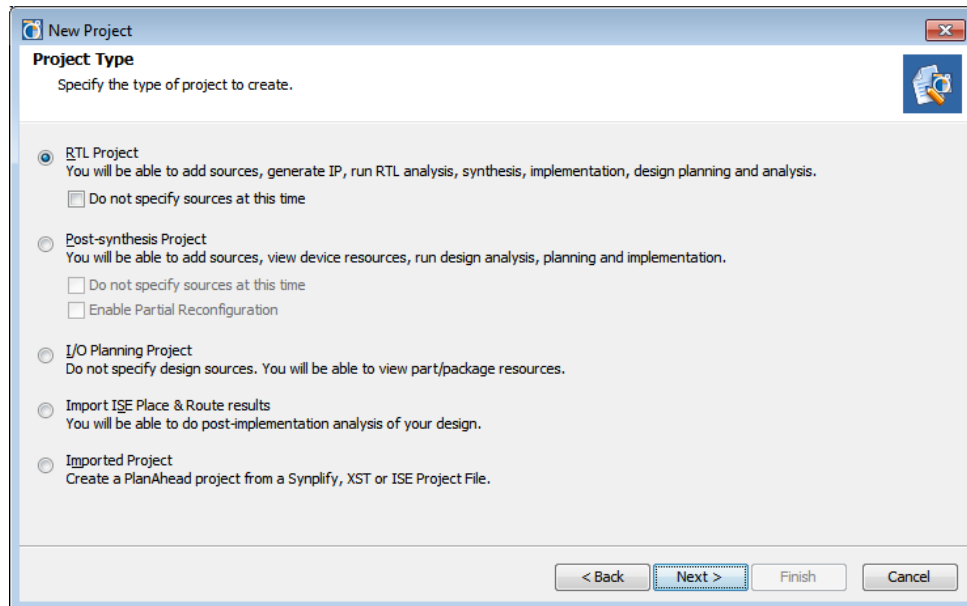

Figure 3: Project Type
5. Click **Next** to open the Project Type page, as shown in Figure 3.